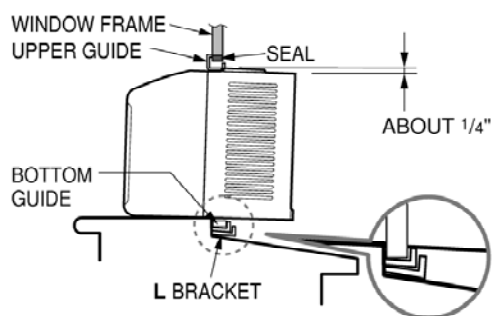

Figure 9
- b. While steadying the air conditioner, carefully bring the window sash down behind the upper guide of the air conditioner, as shown in Figure. 9.